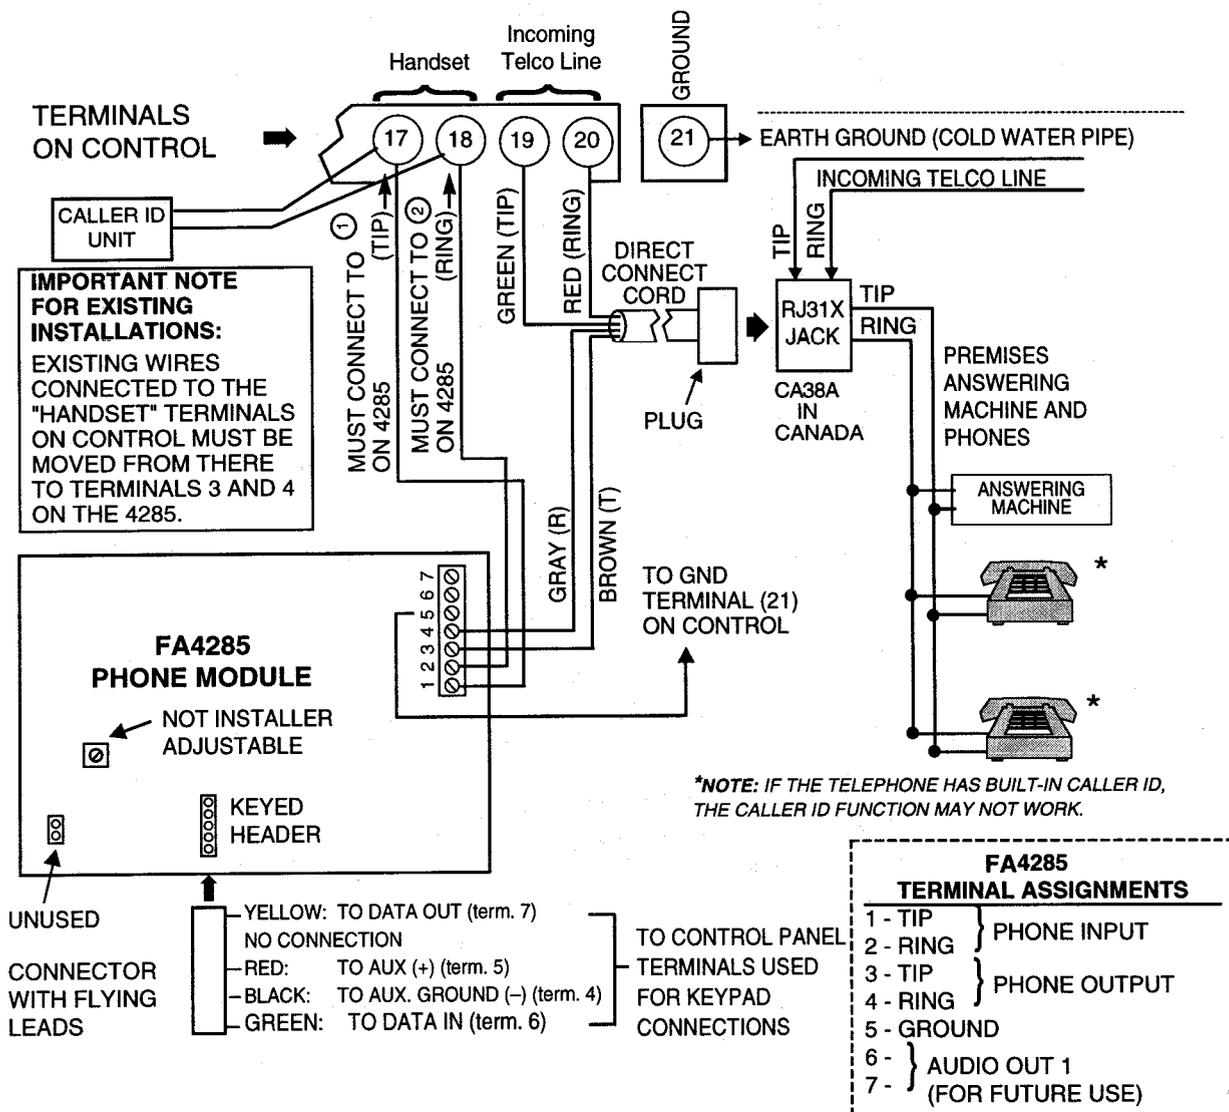

Figure 12. FA4285 Phone Module Wiring Connections
1. Make 12V (+) and (-) and data in and data out connections from the Phone Module to the control, using the connector cable supplied with the Phone Module (see Figure 12).